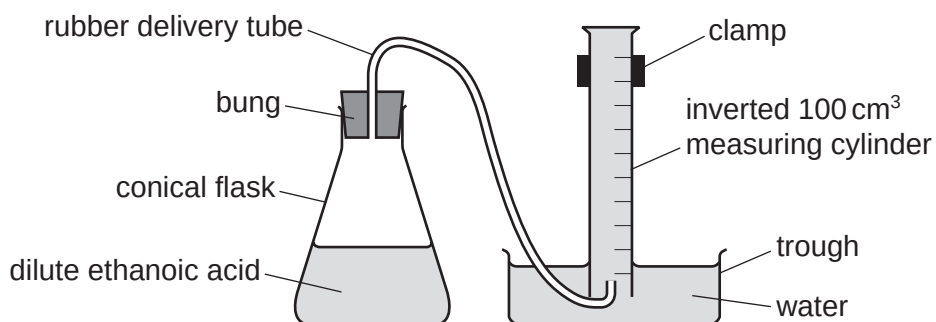

Fig. 2.1
The student does two experiments using the apparatus shown in Fig. 2.1.
- Set the apparatus up as shown in Fig. 2.1, ensuring the inverted measuring cylinder is full of water.